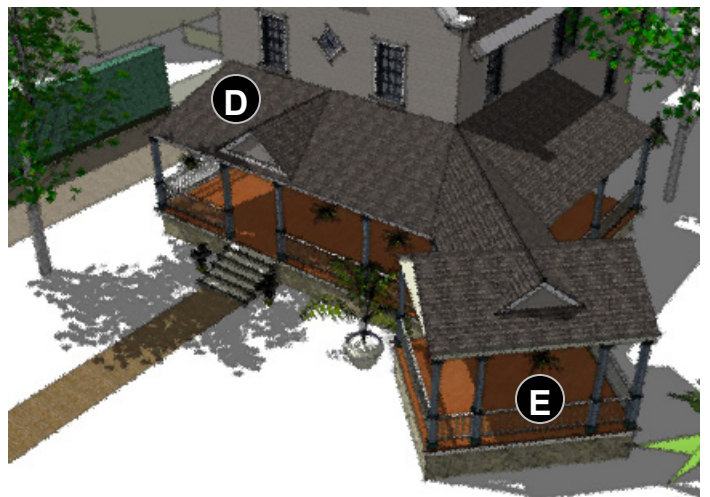

Fig. 3: Porches which wrap around two sides of a house can create the most interesting spaces, and are common on corner lots.
New front porches should ideally be deep enough to accommodate seating and circulation, **(C) in Fig. 2,** and should not terminate at a random point along the width of the facade. The width of a new porch should relate logically to that portion of the facade to which it is attached. **(D) in Fig. 3.**
Porches which wrap around two sides of a residence are a great way to create an area at the corner to highlight a special seating area if it is appropriate to the architectural style of the residence. **(E) in Fig. 3.** This is often found on historic homes located at corner intersections.